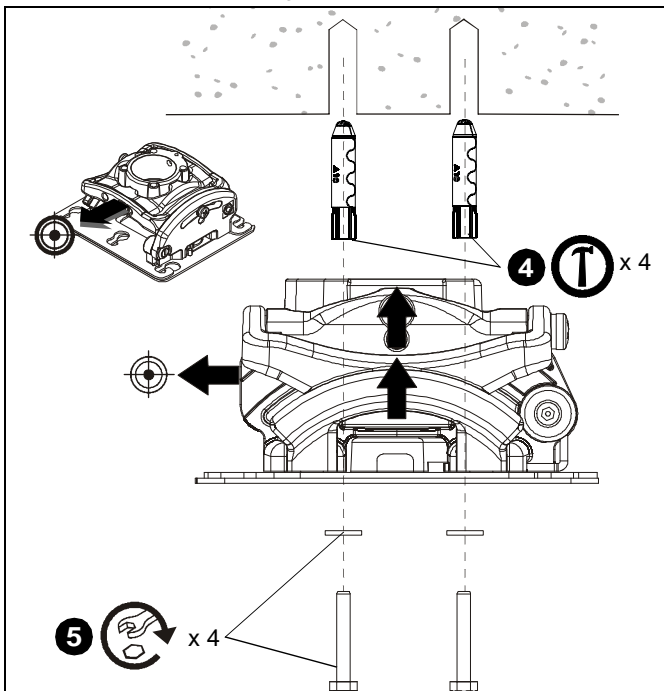

Figure 6
- Secure RPMX to structure using four 1/4" Grade 2 flat washers and four 1/4" x 3" ASTM A307, Grade A lag bolts (not included). (See Figure 6)